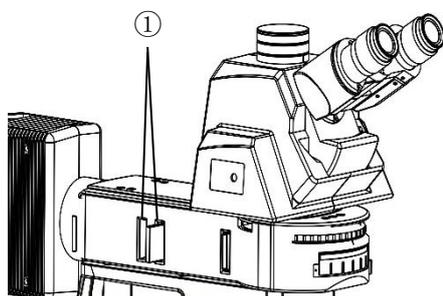

Fig.21
**3-17 Color filter use (Fig.21)**
- ⊙ Insert the filter rack most suitable for observation purposes into the filter slot (Num ①, Fig.21), and be sure to insert it from the left.